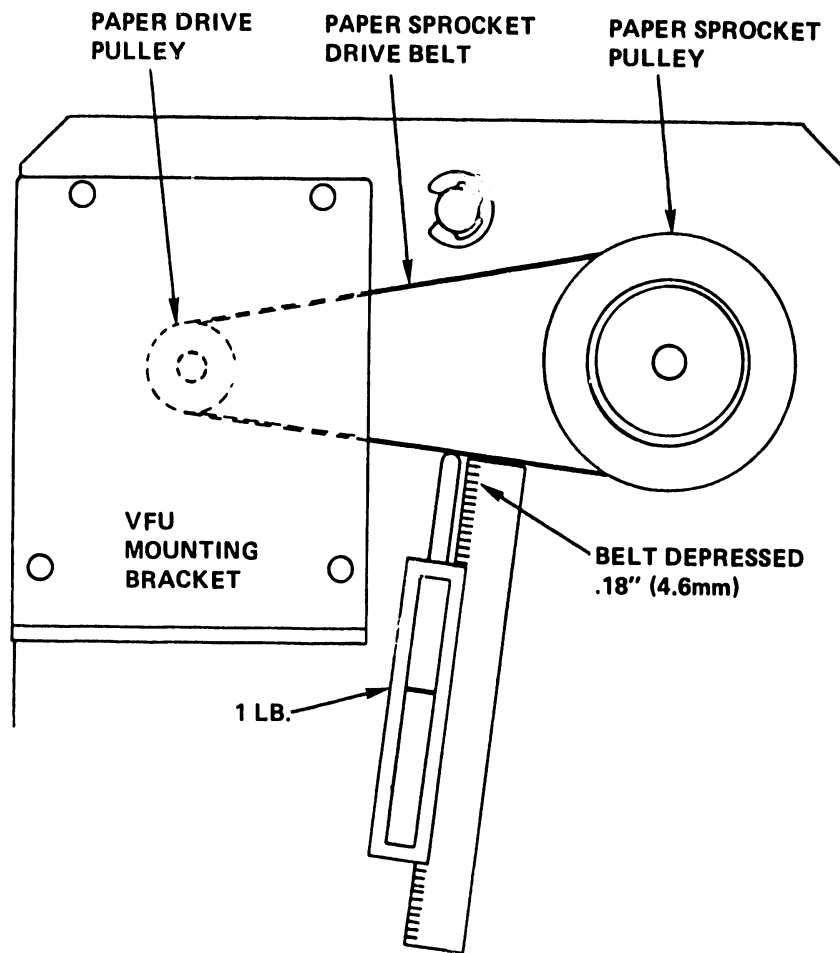

Figure 5-41. Paper Sprocket Drive Belt Tension Check
1. Using a spring gauge and scale, deflect the middle of the paper sprocket drive belt .18" (.45 cm). The scale should read 1 lb. See Figure 5-41.